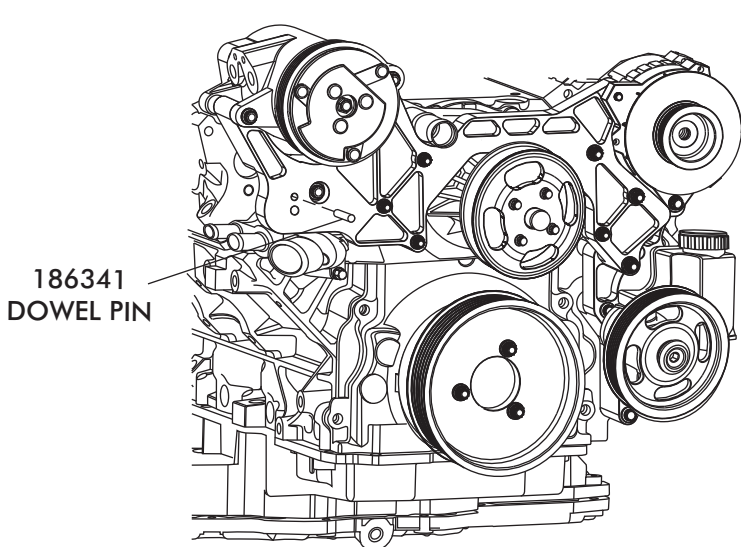

FIGURE 11
- INSTALL .250 x 1.00 SS DOWEL PIN INTO MAIN BRACKET AS SHOWN IN FIGURE 11 BELOW.